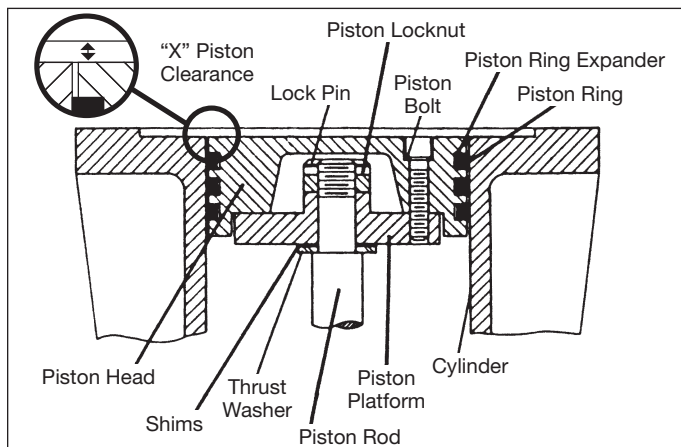

Figure 5.4A: Piston cross section model sizes 91 through 491
6. Before installing the new piston, measure the thickness of the existing shims. The shims are placed between the thrust washer and piston platform (see figures 5.4A and 5.4B).